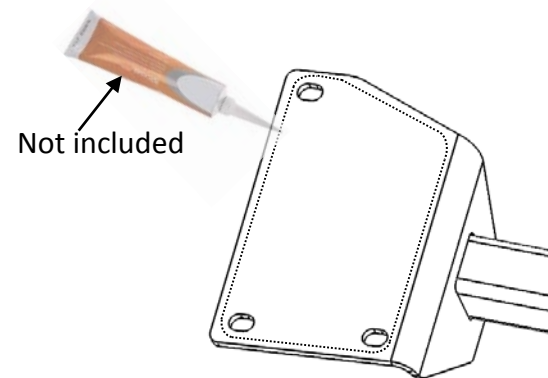

Figure 2
7. Apply sealant - apply silicone sealant to both hitch bracket mounting surfaces, see Figure 2.